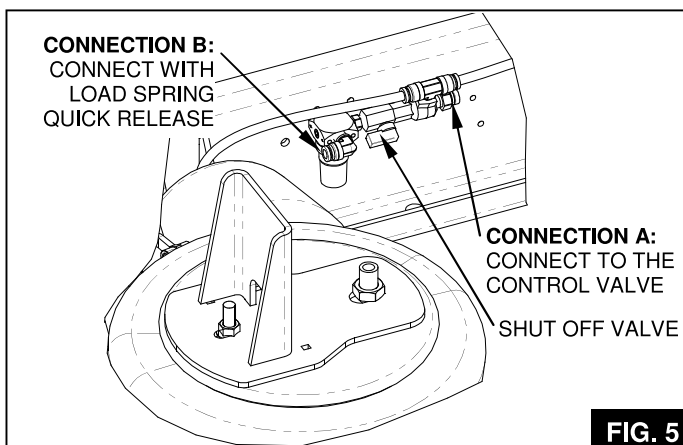
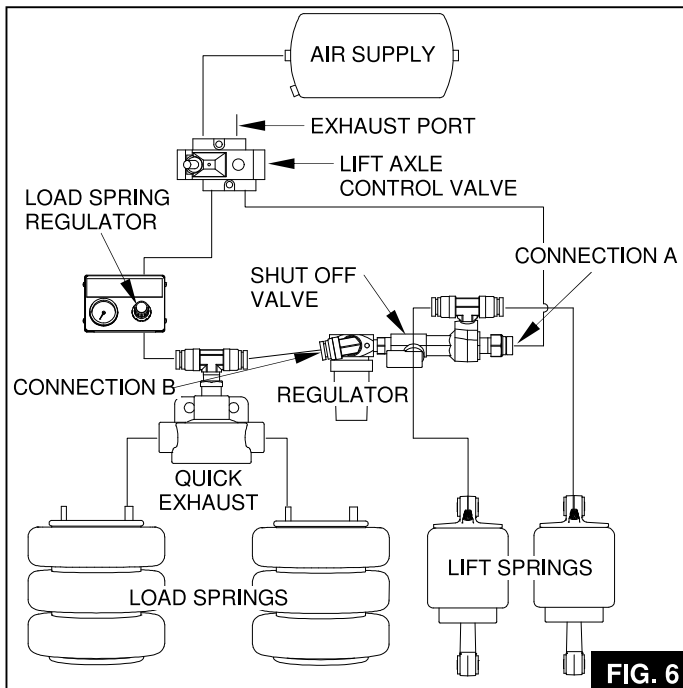

FIG. 5
FIG. 6
11.2 Connect the fitting labeled “**Connection A**” in **Fig. 5** to the port on the lift axle control valve that lifts the suspension. See **Fig. 6** for details.
11.3 Connect the fitting labeled “**Connection B**” in **Fig. 5** to the quick release valve used on the load springs. See **Fig. 6** for details.